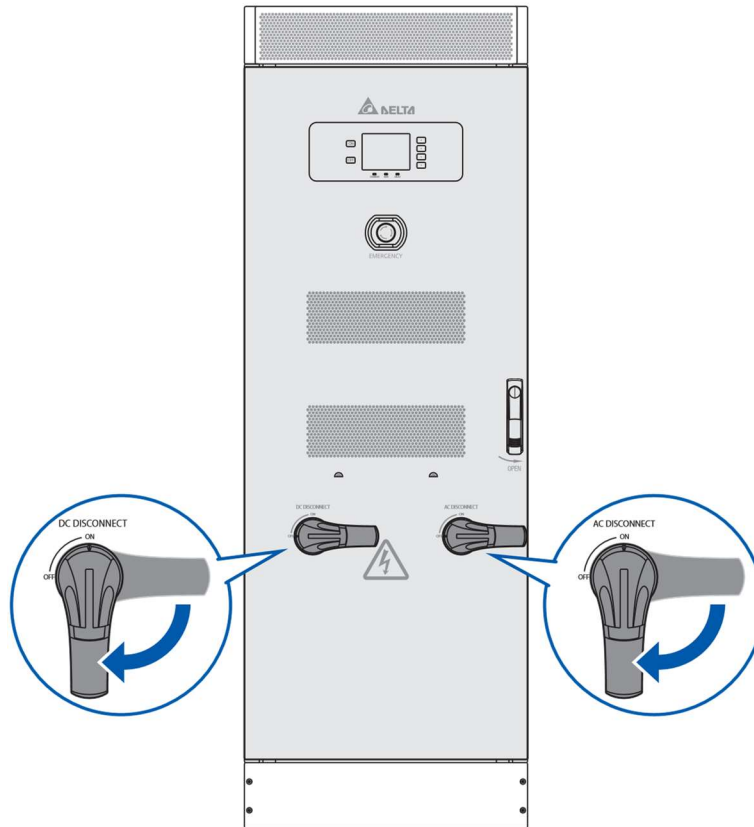

Figure 1. Turn AC and DC Switches to ON State
2. Turn the AC and DC switches on the front door to **ON** state as shown in Figure 1. The PCS powers on and enters standby mode.